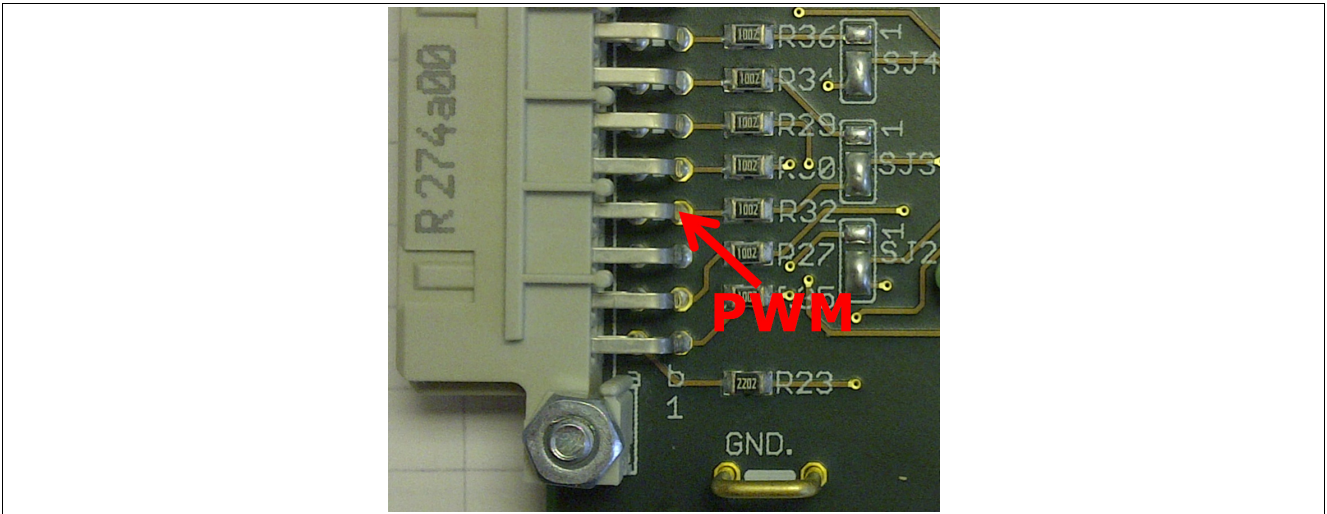

Figure 5 Driver Card Connector PIN for PWM (X1-B4)
- apply a PWM signal with a duty cycle of 50% which meets the requirements defined in the data sheet to the pin X1-B4 of the drive card connector (see Figure 5)